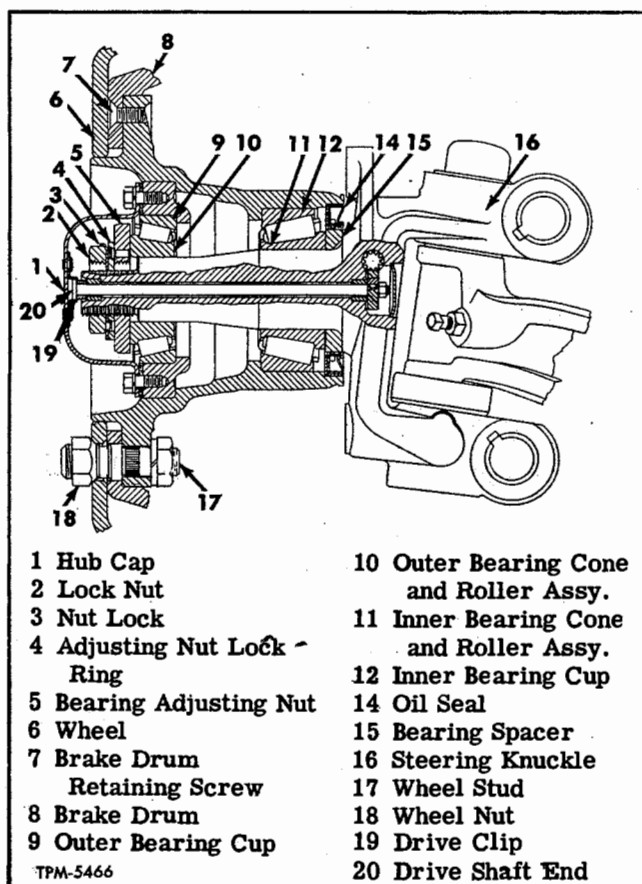

Figure 2—Front Left Hub with Tachograph Drive
(4). Either side of ring may be used toward adjusting nut. When installing lock ring (4), place first one side then other side toward adjusting nut (5), to determine which position will permit dowel pin in nut, to line up with hole in lock ring (4) with least change in position of adjusting nut (5).
6. Install nut lock (3) and lock nut (2) on steering knuckle spindle. Draw lock nut up tight.
7. Recheck wheel bearing adjustment; then bend lip of nut lock (3) down against flat of lock nut (2).
8. Install hub cap (1) and new gasket on hub, attaching with six cap screws and lock washers.
NOTE: When installing tachograph drive hub cap and gasket, engage drive shaft end (20) in drive clip (19) on hub cap. (Refer to figure 2.)